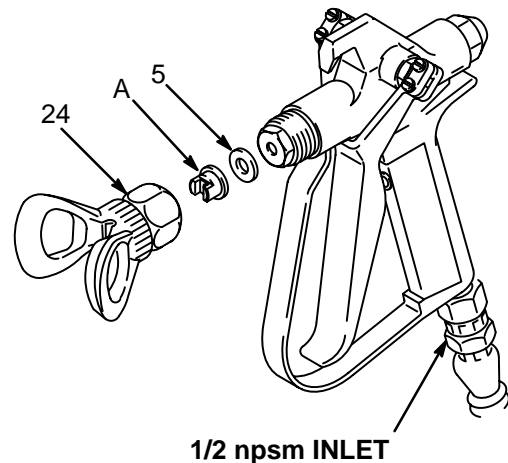
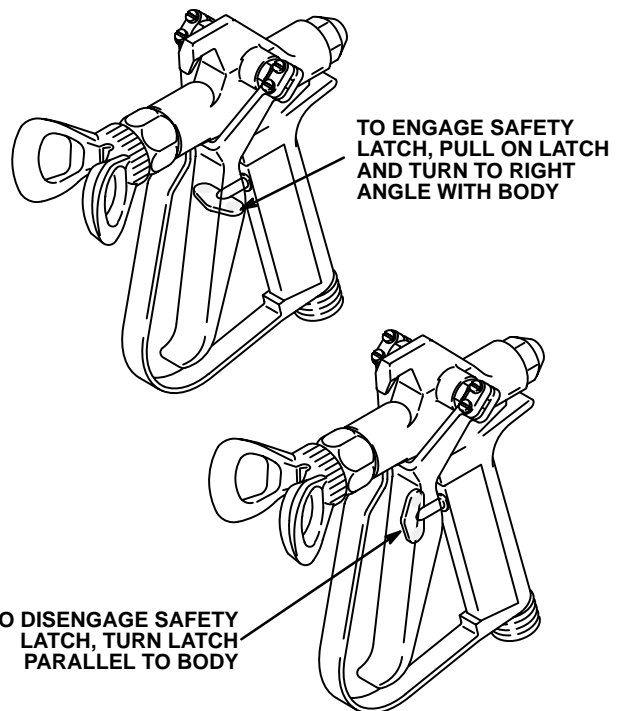

Fig 1 \_\_\_\_\_ 0957
Fig 2
4. With the gun safety latch engaged (see Fig 2), unscrew the tip guard (21) and install the tip (A) and gasket (5) in the nut of the tip guard. Screw the assembly firmly onto the gun. Tighten with a wrench. See Fig 1.
**NOTE:** Failure to install the tip gasket (5) will result in leaking.